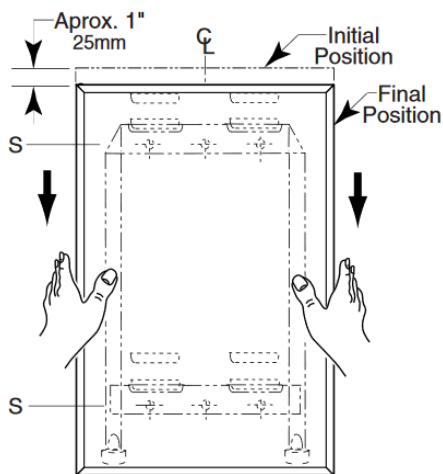

Figure 3
**Snap Locking Design** — Locking devices automatically secure mirror to concealed wall hanger when it is lowered into final position (see figure 3). Locking devices may be unlocked by inserting two flat blade screwdrivers behind each side of mirror near the bottom or under the bottom of the mirror and pulling mirror bottom for ward and then up.